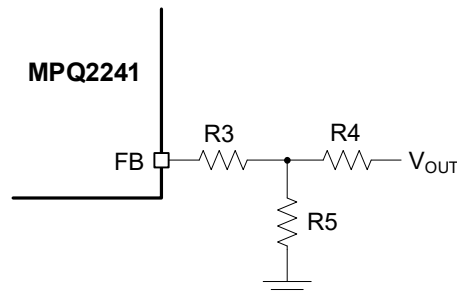

Figure 1: Feedback Divider Network with Adjustable Output
7. To use the enable (EN) function, apply a digital input to the EN pin. Pull EN above 1.2V to turn the converter on; pull EN below 0.4V to turn it off. If the EN function is not used, connect the EN pin directly to VIN.
8. The external resistor divider sets the output voltage (V_{OUT}) (see Figure 1).